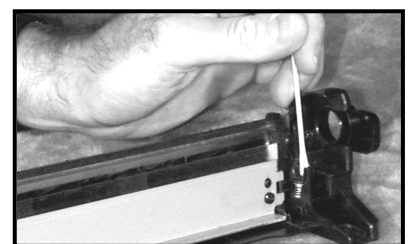

Figure 4
5. Clean the black PCR saddle clip with a cotton swab and 99% IPA (Fig. 4). This clip is conductive and supplies current to the PCR. If it is dirty or the PCR does not make good contact, print defects will occur. Install the PCR and OPC into the waste hopper unit. Rotate the OPC against the wiper blade and then remove residual drum lubricant (padding powder) from the surface of the PCR with a clean lint-free cloth. Any padding powder left on the PCR will cause print defects. Set the drum unit aside ensuring the OPC is protected from light and physical damage.